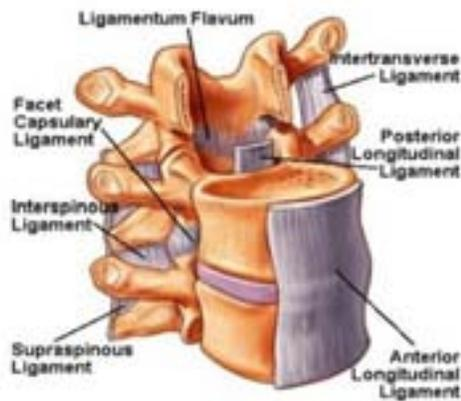

Figure 7- Ligament structure of the spine
- Ligaments are tough bands of thick fibrous tissue that support the front and back of the spine (Figure 7).